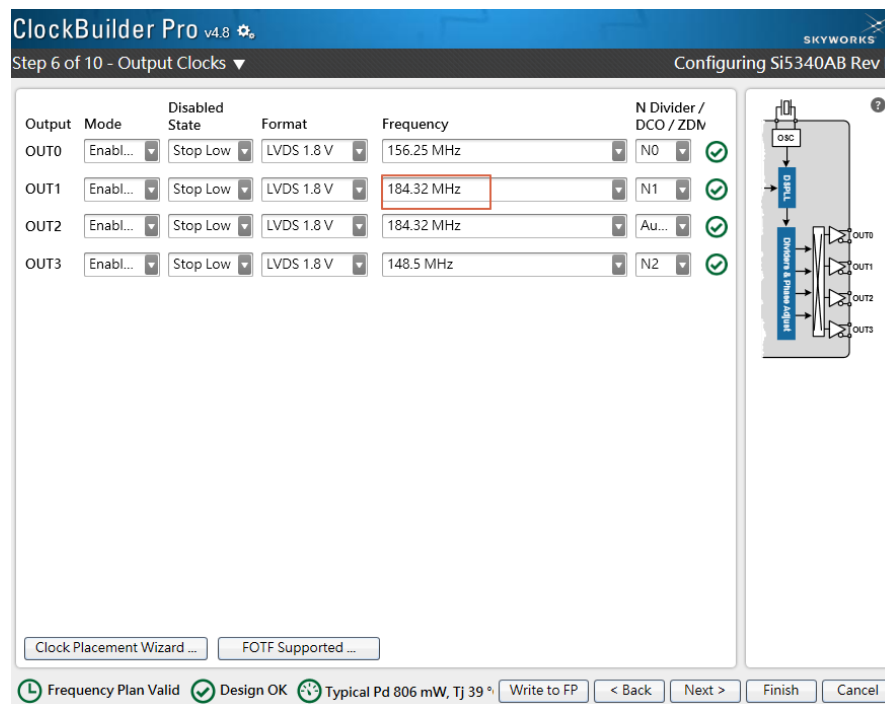

Figure 2-13 Specify Output Clock Frequencies on CBPro
- In the Output Clocks page, specified desired output frequencies and click “Finish” button as shown in **Figure 2-13**.